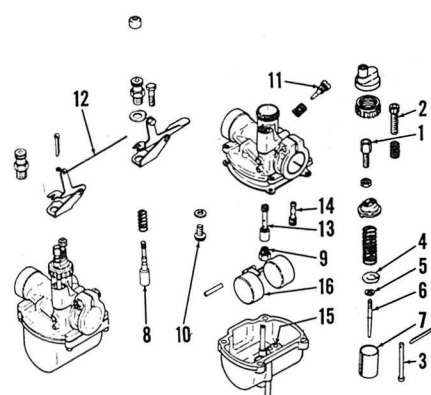
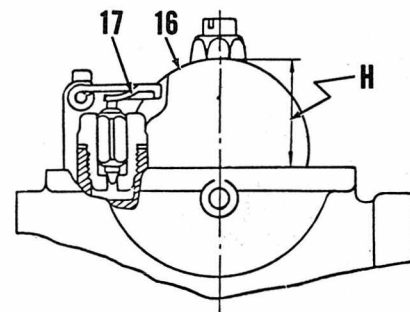

Fig. Y7-1—Exploded view of Mikuni VM carburetor. Starting valves for both carburetors are connected with rod (12).
Fig. Y7-2—Float level (H) is adjusted by bending tang (17).
**CARBURETORS.** Two Mikuni VM carburetors are used. Idle speed should be set at approximately 1,200 RPM by turning adjusters (2—Fig. Y7-1). Make sure that throttle slides (7) both stop at exactly the same position and exhaust pressure is the same for both cylinders. Idle mixture is changed by turning needles (11). Initial setting is 1½ turns open. Turning the needle counter-clockwise leans the mixture. Carburetors must be synchronized to open exactly the same amount by turning cable guides
(1) on top of each carburetor. To synchronize, begin by turning idle speed adjusters (2) all the way down, then adjust cable guides (1) to begin raising throttle slides at the same time. Throttle cables must have some slack (free play). After carburetors are correctly synchronized, adjust idle speed and pump control cable.
Float level (H—Fig. Y7-2) should be 1 inch (25.5MM) and is adjusted by bending tang (17) on float. Refer to Fig. Y7-1 and the following standard specifications:
Before adjusting the pump control cable, it is important that the throttle cable guides (1—Fig. Y7-1) are cor-